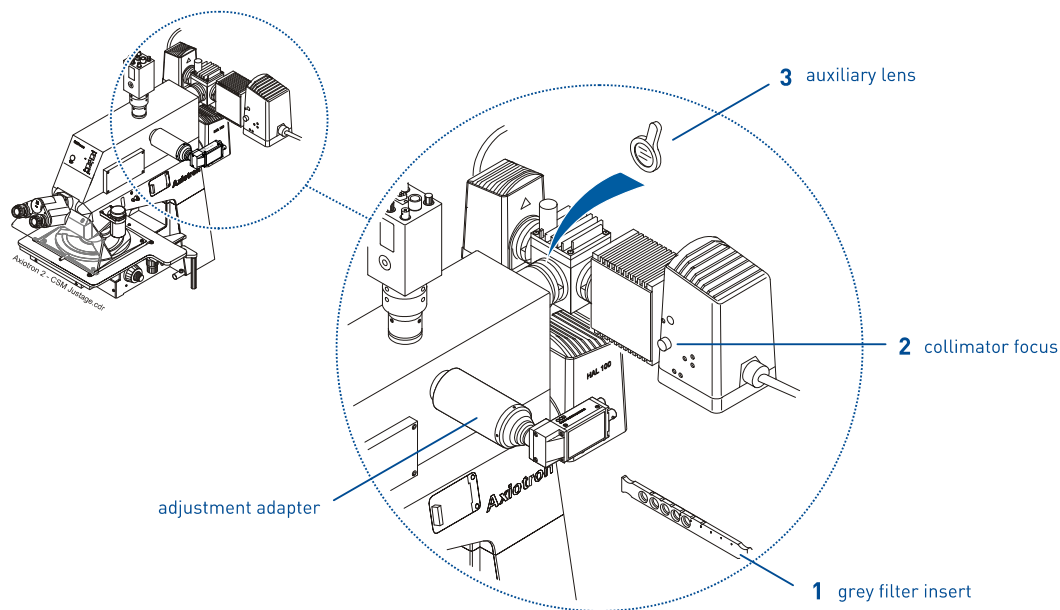

figure 60 Tools required for the fine alignment of the CSM illumination
- If the image brightness is too big, use the grey filter slider of the CSM head (see **1** in figure 60) to adjust the intensity. The filter is located at the right side of the CSM head, directly below the UV camera.
- The CSM illuminator features a pocket that accommodates the auxiliary lens that is also part of the CSM adjustment tools (see **3** in figure 60).
- A sharp image of the electrodes is achieved by focussing the collimator of the arc lamp (**2** in figure 60).
- Finally, refocus on the wafer surface and adjust the collimator focus (2 in figure 60), until an evenly illuminated image can be observed.